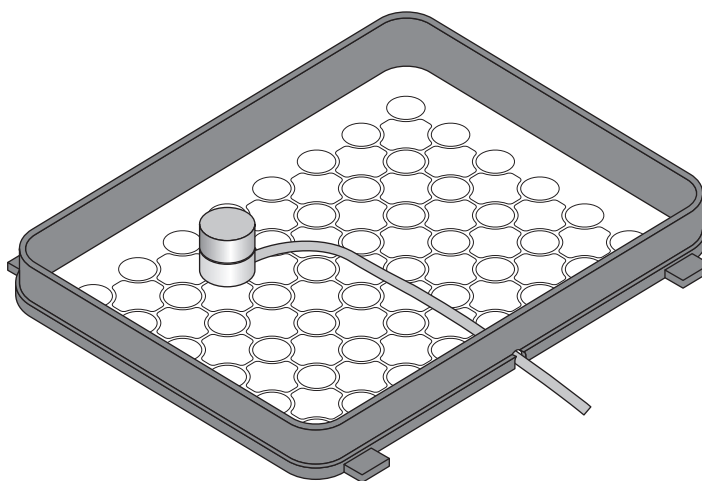

Figure 19 The Temperature Verification System for Veriti[®] Thermal Cycler
Assembly Figure 19 shows a properly assembled system. The frame is positioned around the wells with the channel facing you, and the probe wire is threaded through the channel to prevent damaging the wire when the thermal cycler heated cover is closed.
- Place the 0.5-mL probe assembly into well B3. Thread the probe assembly wire through the channel in the temperature verification frame to prevent damage to the probe assembly and lead wires (see Figure 19 on page 118).
- Place the 0.5-mL probe assembly into well A1. Thread the probe wire through the channel in the temperature verification frame to prevent damage to the probe assembly and lead wires (see Figure 19 on page 118).